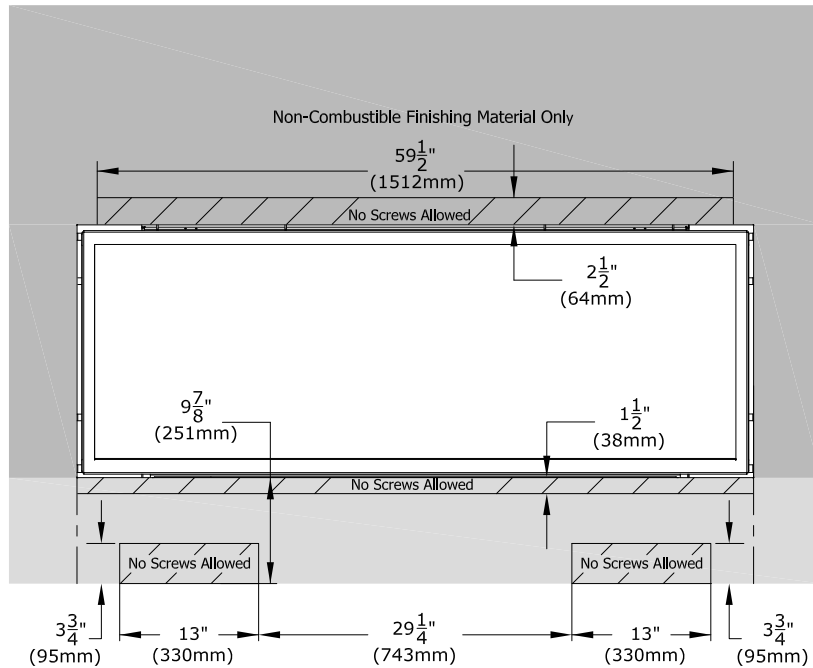

Figure 5.6 - Non-Combustible Finishing Material Requirements
- See Figure 5.6, Non-Combustible Finishing Zone for the minimum requirement of noncombustible finishing material.